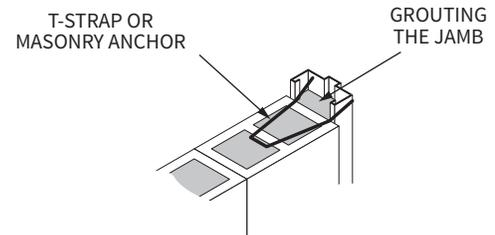

Figure 19: New Unit Masonry Wall Anchorage
5. New Unit Masonry Wall Anchorage (Figure 19)